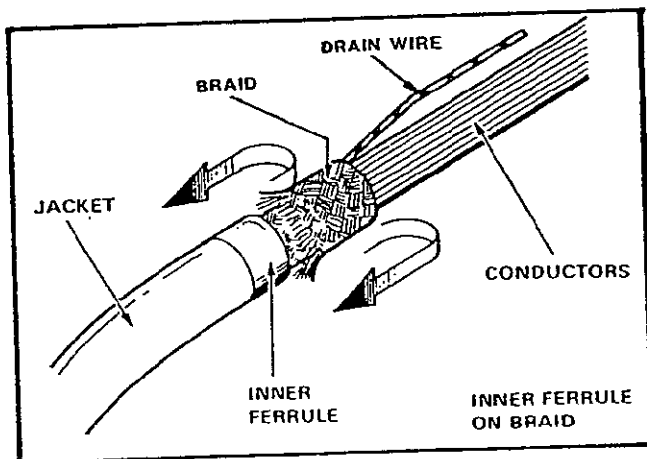

Fig. 4
Follow the alternative procedure as detailed in Section 'C' and Figure 4 if the cable jacket diameter is greater than the inside diameter of the ferrule.
1. Slide inner ferrule, Item 7, over cable braid and butt up against end of outer jacket. (See Figure 4)